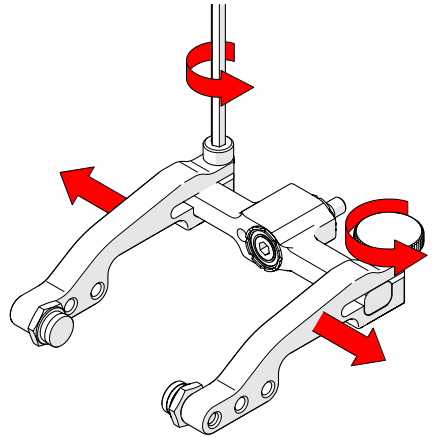

Fig. 119 - Remove arms
2. Loosen the probe holder arm adjustment knob and arm clamp screw. Slide the arms from the yoke (Fig. 119).